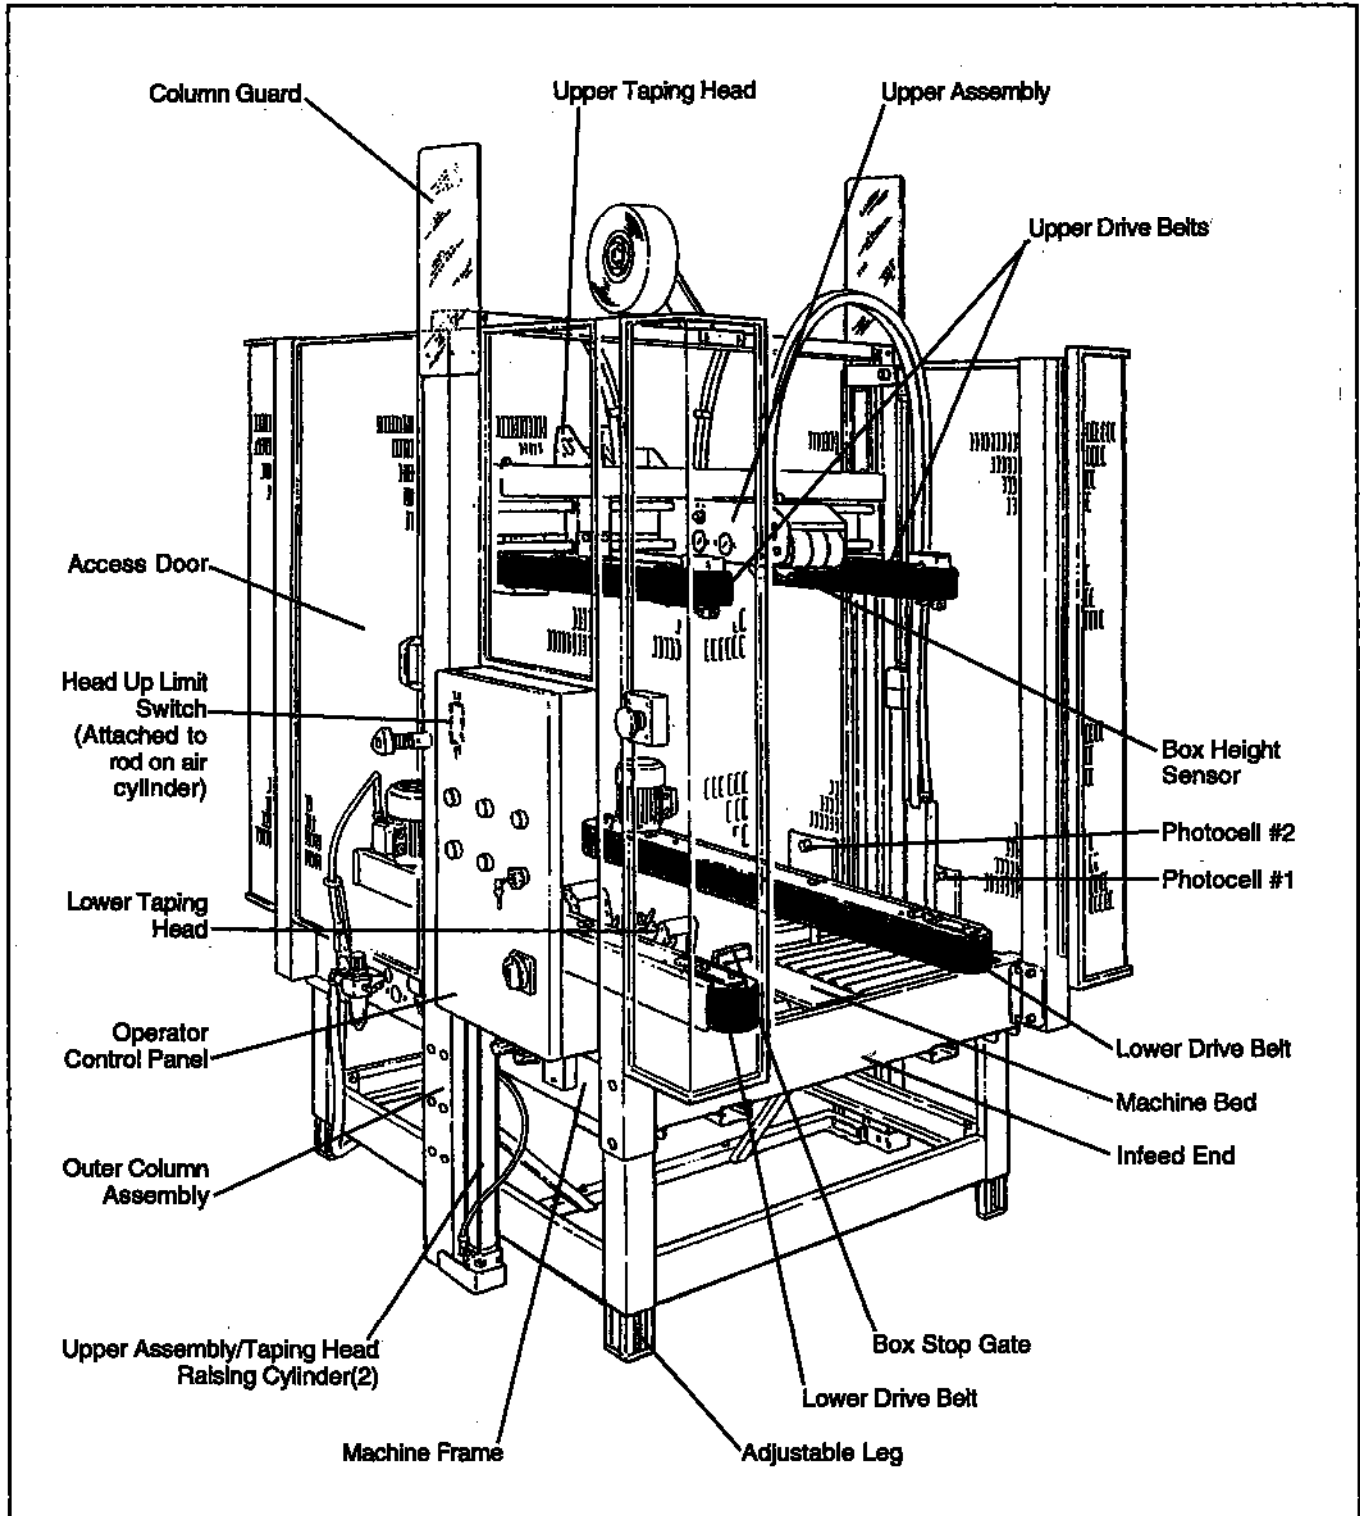

Figure 3-1 – Case Sealer Components
The following instructions are presented in the **order recommended** for setting up and installing the case sealer. Following them step by step will result in an installation in your production line that best utilizes the many features built into the case sealer. Refer to Figure 3-1 and 3-2 to identify the various components and controls of the case sealer.
Refer to Figure 3-1 and 3-2 to acquaint yourself with the various components and controls of the case sealer. Also see Section II, page 8 for taping head components.
9. Both the upper and lower taping heads utilize extremely sharp knife blades for tape cut-off. The blades are located under the orange blade guard which has the "WARNING – SHARP KNIFE" label. Before loading tape, refer to Section II, Figures 3-1 and 3-2 on page 6, to identify the blade location. Keep hands out of this area except as necessary to service the taping heads.